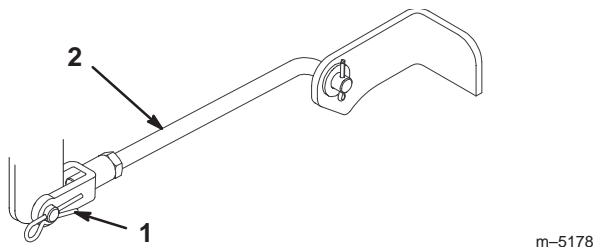

Figure 46
3. Remove the hairpin cotter and clevis pin from the front trunion yokes (Fig. 46).
6. Attach the front trunion rods to the tractor with the clevis pins and hairpin cotters (Fig. 46).